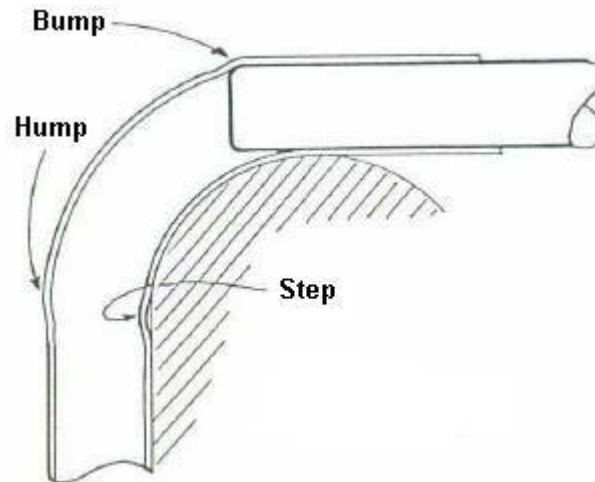

Figure 10
***Mandrel too far forward:*** When the mandrel is too far forward (**Figure 10**) bumps appear on the outside of the bend at the terminal tangent and a step on the inside of the bend at the starting tangent. These are shown on the same tube. They will not always appear at the same time, depending upon shape of the mandrel and bend radius. The bump, obviously, is caused by the mandrel. The end of the mandrel prying the tube away from the bend die forms the step.